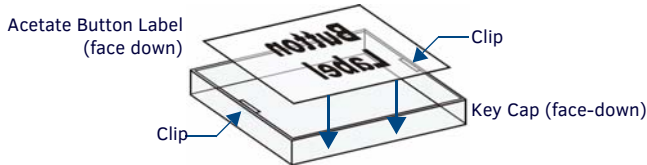

FIG. 6 PLACING A BUTTON LABEL INSIDE A KEY CAP
- Place the Key Cap face-down, and insert the Button Label into the bottom of the Key Cap (FIG. 6).
- Orient the Button Label inside the Key Cap so that the two clips are located on the left and right sides of the readable text on the Button Label, as indicated in FIG. 6.
- Be sure to place the Button Label face-down inside the Key Cap (see FIG. 6), otherwise the label will be seen in reverse once the Key Cap is installed.